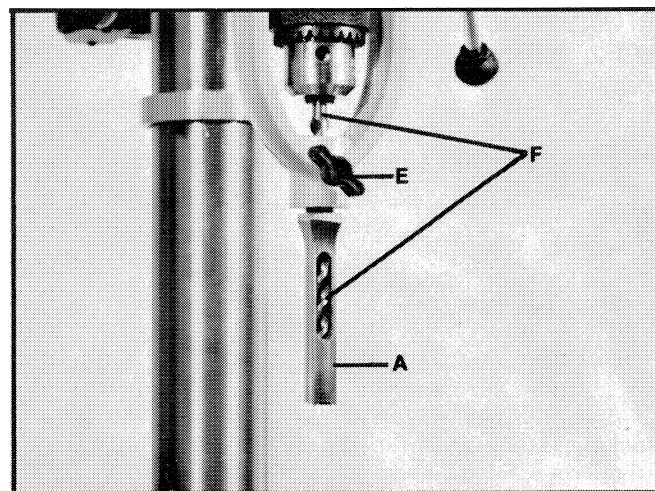

Fig. 16
3. Push the bit (F) Fig. 16, up through the chisel (A) as far as it will go and fasten in chuck securely.
4. **IMPORTANT: Loosen lockscrew (E) Fig. 16, and push the chisel (A) upward to take up the 1/32" space previously left in STEP 2, and tighten lockscrew (E).** This method assures having the proper clearance between the cutting lips of the bit and the points of the chisel.